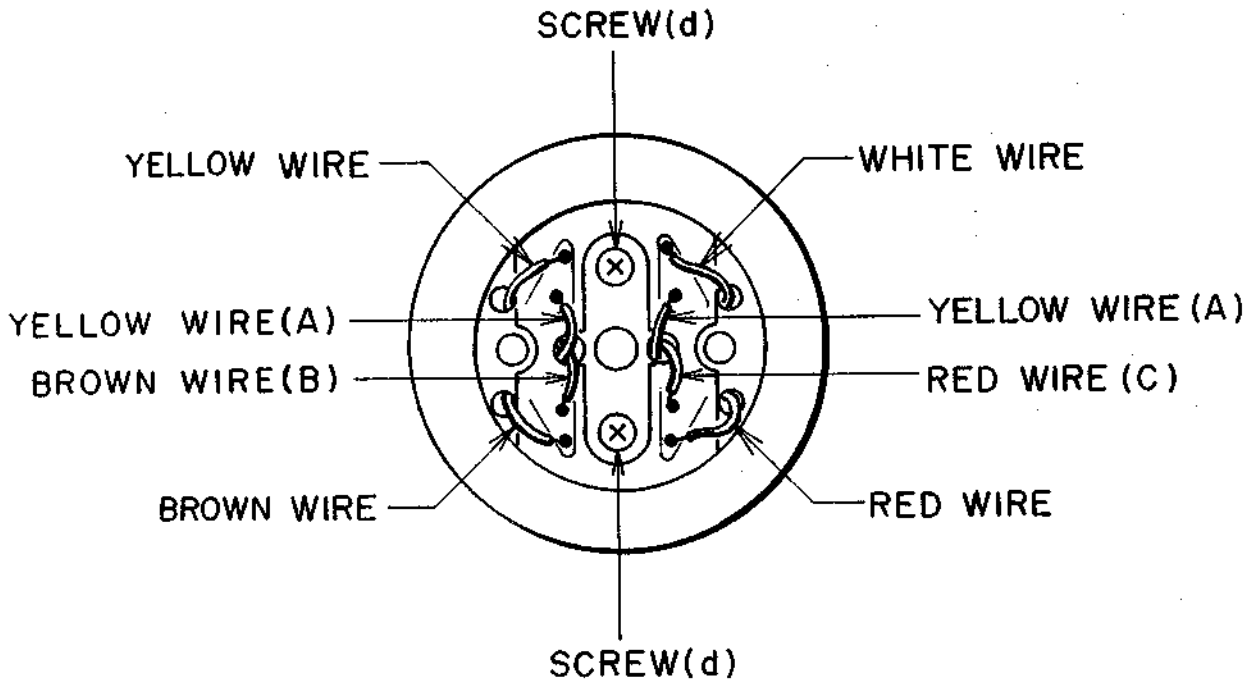

Fig. 114 Replacement of Video Head Assembly
1. Unsolder the wire (A), then unsolder the brown wire (B) and red wire (C).
3. Install the new head assembly and solder the wires as shown in Fig. 114.